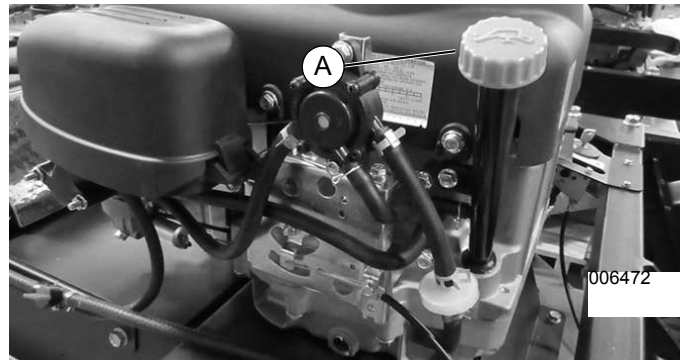

Figure 2-11. Adding Oil
1. See Figure 2-11. Remove oil dipstick/fill cap (A) and wipe dipstick clean.